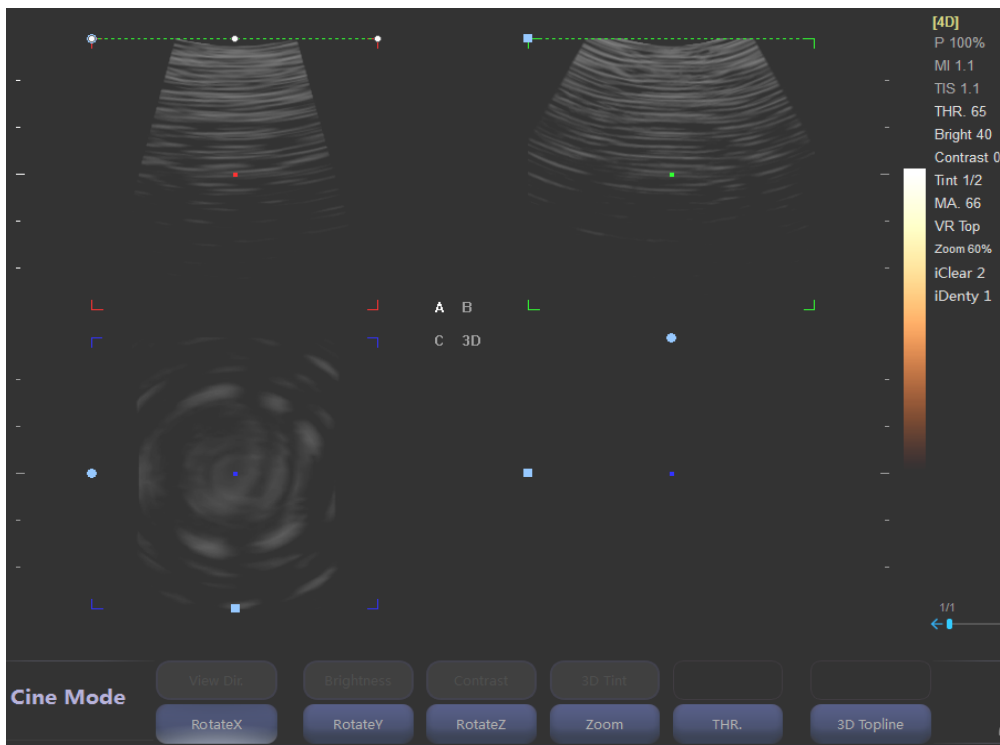

Figure 4.2.1 Real-time 4D Scanning Interface
(1) Start 4D Scan: Press **【Update】** button to Start 3D/4D scanning. real-time images of different dimension sand 4D image are shown in Figure 4.2.1